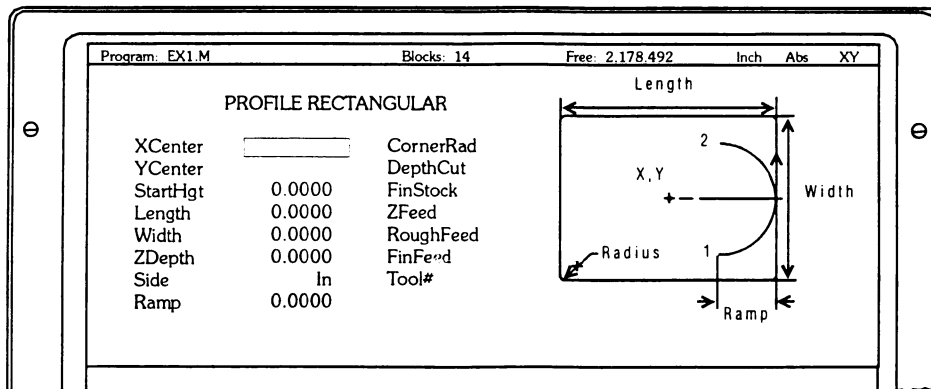

Figure 3, Rectangular Profile Screen Diagram
2. Machine feeds into the profile along Ramp #1, cuts profile to **Length**, and **Width** specified, then ramps away from the work along Ramp #2, see Figure 3. Rectangular Profile Screen Diagram.
press (ENTER),  (**PROFILE RECTANGULAR** screen diagram displays, see *Figure 3. Rectangular Profile Screen Diagram*).